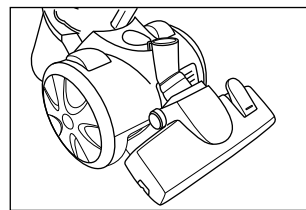

Fig. 6
Put away the appliance, placing the floor brush (L) on the special hook in the back (Fig. 6).